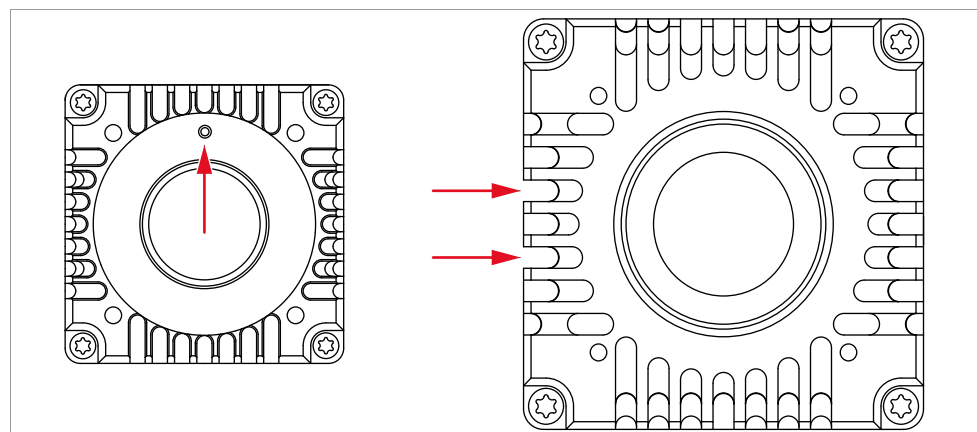

Figure 32: Position of safety screws on mount adapters:
See Figure 32 for the position of the locking screws.
1. Unscrew the adapter (1) from the camera.
- Loosen the locking screw (2, shown from back of adapter) on the outside of the mount adapter. See Figure 32 on page 140 for the position of the locking screws.
2. Unscrew the adapter (1) from the camera.